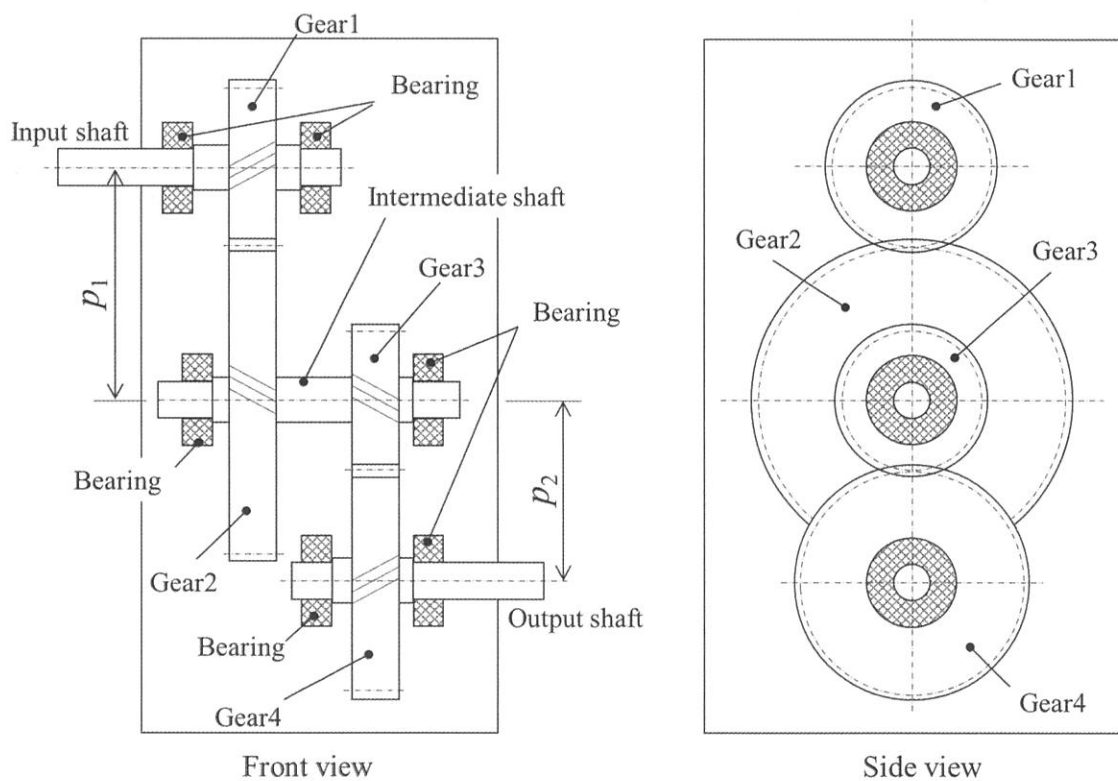

Figure 5
Consider the gear box shown in Figure 5. The gear box has four gears and three shafts, which are the input shaft, the intermediate shaft, and the output shaft. All the shafts are supported with rolling bearings of the same type. The input torque is noted T_i , the output torque is T_o , and the outer diameters of the Gear1, Gear2, Gear3, and Gear4 are $D_1, D_2, D_3,$ and D_4 , respectively. The pitch circle diameters of the Gear1, Gear2, Gear3, and Gear4 are $d_1, d_2, d_3,$ and d_4 , respectively. In addition, p_1 and p_2 are the distances between the shafts, as shown in Figure 5.
(3) In order to decrease vibration and noise of the output shaft, helical gears are used for all gears. For the bearings that support the shafts fixed with the helical gears in Figure 5, select the most suitable type of bearings from the following list and justify your choice using around 30 words.
(4) Assuming that energy loss during rotation is negligible, obtain the output torque T_o .